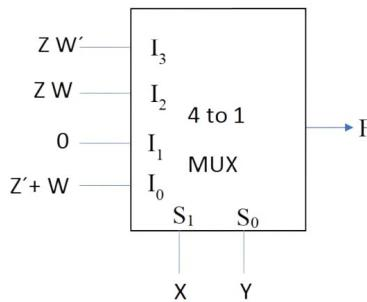

Fig. 4.20: Multiplexer
- (A) $P - K, Q - L, R - N, S - M$ (GATE BM 2020)
- (B) $P - L, Q - K, R - N, S - M$
- (C) $P - L, Q - N, R - M, S - K$
- (D) $P - M, Q - K, R - L, S - N$
39. A 4×1 multiplexer with two selector lines is used to realize a Boolean function F having four Boolean variables X, Y, Z and W as shown below in Fig. 4.20. S_0 and S_1 denote the least significant bit (LSB) and most significant bit (MSB) of the selector lines of the multiplexer respectively. I_0, I_1, I_2, I_3 are the input lines of the multiplexer. (GATE IN 2021)